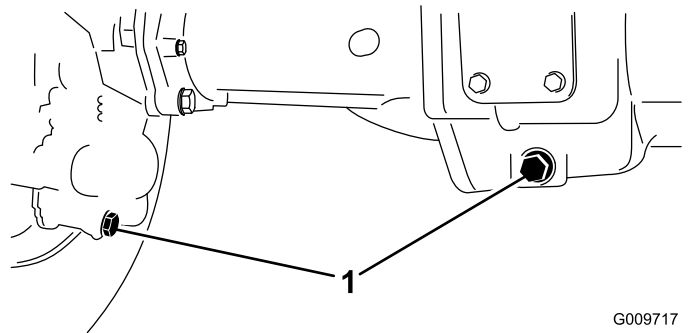

Figure 46
2. Clean the area around the 3 drain plugs, 1 on each end and 1 in the center (Figure 46).